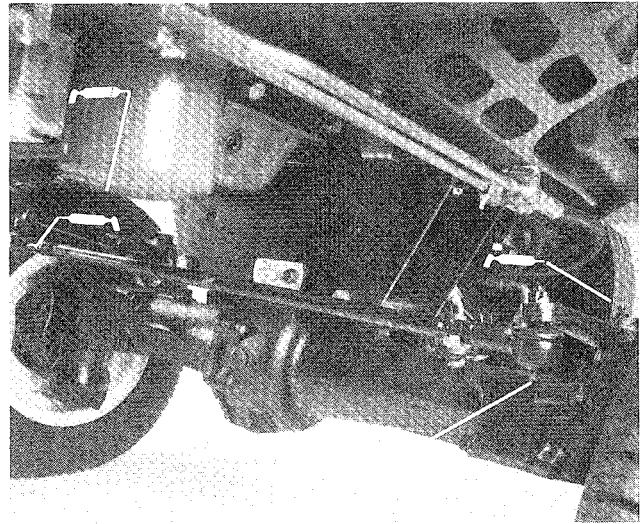
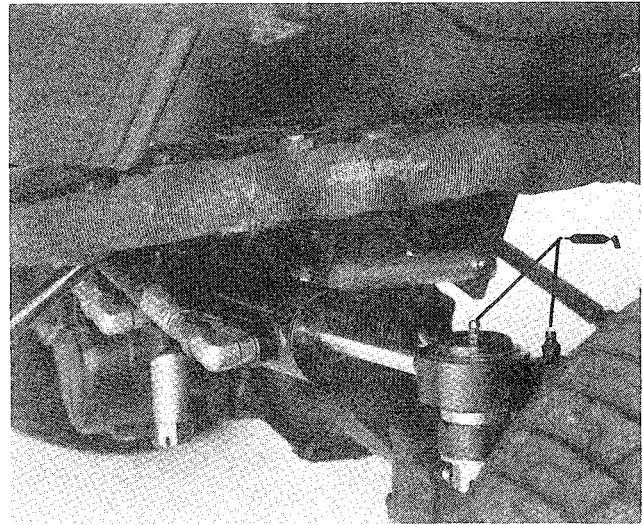

Figure 36
Figure 37
Four wheel drive machines – tie rod assemblies (2), center pivot (1), axle knuckles (2) (Fig. 36); cylinder ends (2) (Fig. 37)..